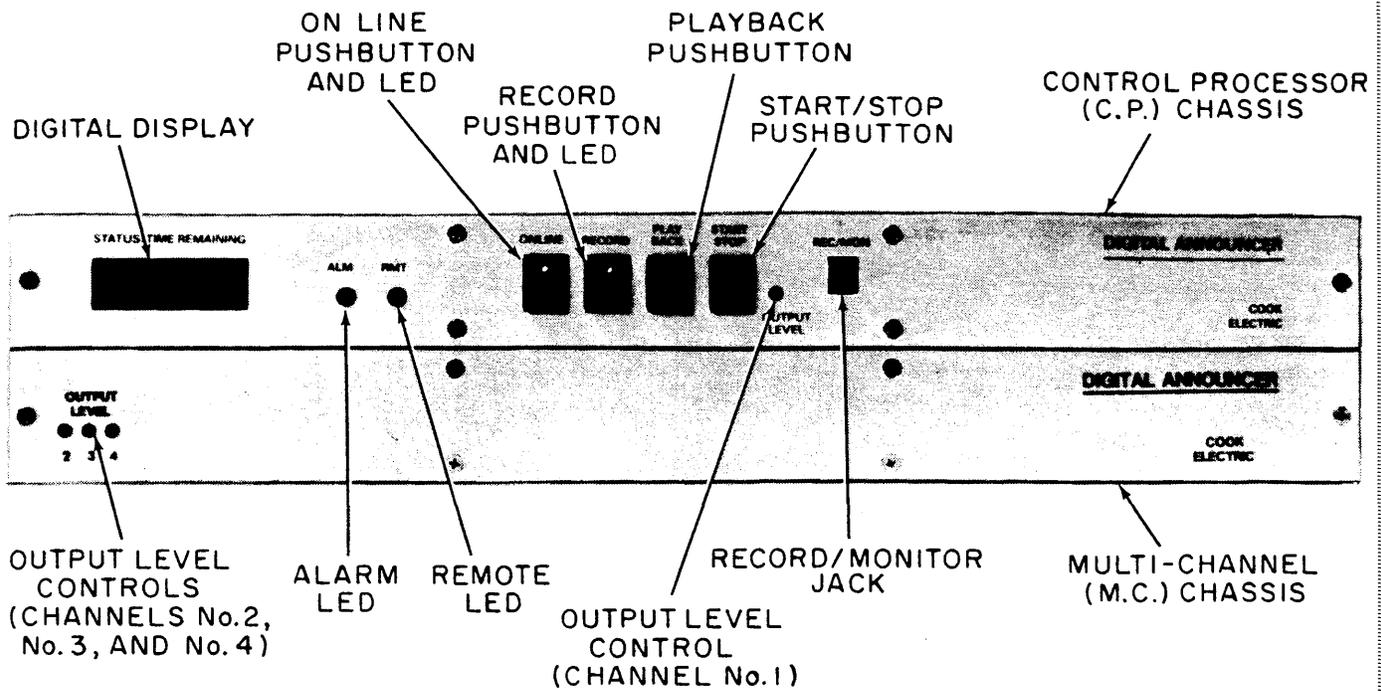

Fig. 1 - Front Panel Controls and Indicators
2.01 Model 213400 Multi-Channel Digital Announcer front and rear panel controls and indicators are illustrated in figures 1 and 2. (The Control Processor Chassis is shown installed above the Multi-Channel Chassis.) These controls and indicators are described in table 1.